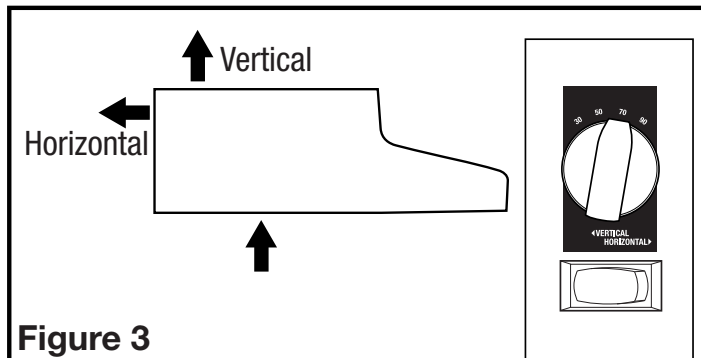

Figure 3
2. To choose between Vertical or Horizontal airflow, move the rocker switch located inside the wire compartment to the appropriate direction (**Figure 3**).